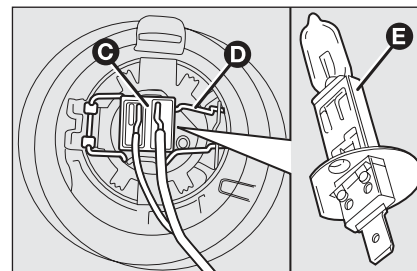

fig. 26
- disconnect the electrical connector **C**-fig. 26;